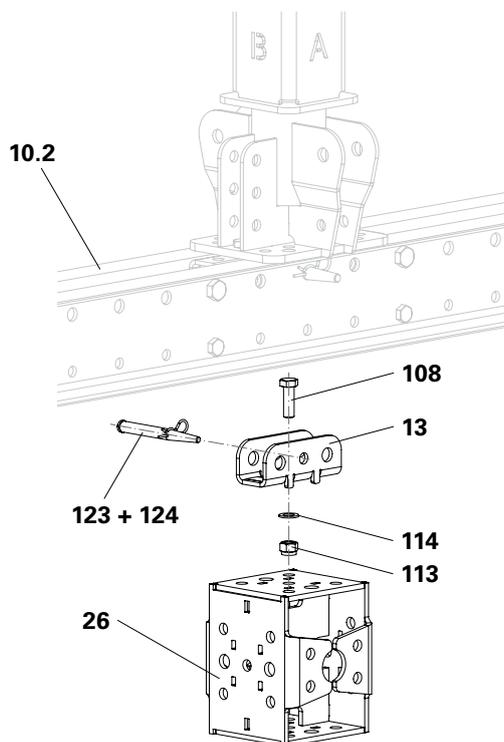

Fig. B3.21
- With the Crane Rail S49, the Support Wedge Box is mounted vertically. (Fig. B3.21)